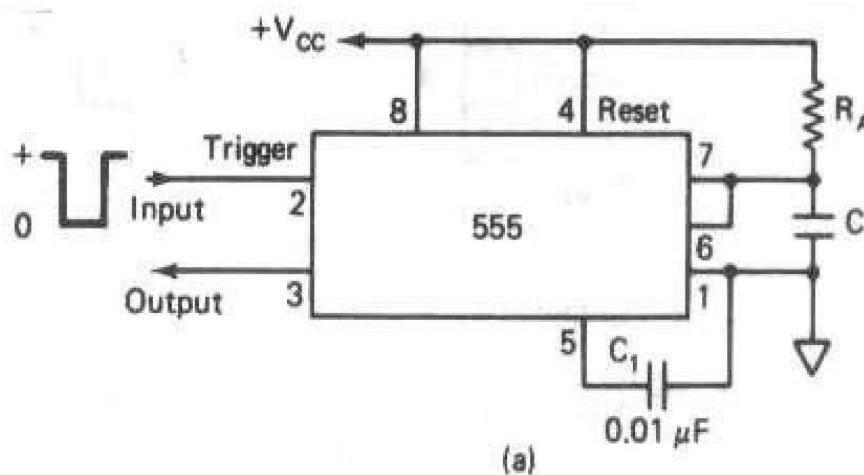

Figure 2.2(a) IC555 as monostable multivibrator
The monostable circuit has only one stable state (output low), hence the name mono- stable. Normally, the output of the mono- stable multivibrator is low. Fig 2.2
555 configured for monostable operation. To better explain the circuit's operation, the internal block diagram is included in Fig 2.2(b).
According to Fig 2.2(b), initially when the output is low, that is, the circuit is in a stable state, transistor Q is on and capacitor C is shorted out to ground. However, upon application of a negative trigger pulse to pin 2, transistor Q is turned off, which releases the short circuit across the external capacitor C and drives the output high. The capacitor C now starts charging up toward  $V_{cc}$  through  $R_A$ .
Fig.2.2 (b) 555 connected as a Monostable Multivibrator (c) input and output waveforms Where  $R_A$  is in ohms and  $C$  is in farads. Figure 2.2(c) shows a graph of the various
- (a) **Frequency divider:** The monostable multivibrator of Figure 2.2(a) can be used as a frequency divider by adjusting the length of the timing cycle  $t_p$ , with respect to the time period  $T$  of the trigger input signal applied to pin 2. To use monostable multivibrator as a divide-by-2 circuit, the timing interval  $t_p$  must be slightly larger than the time period  $T$  of the trigger input signal, as shown in Figure 2.4. By the same concept, to use the monostable multivibrator as a divide-by-3 circuit,  $t_p$  must be slightly larger than twice the period of the input trigger signal, and so on. The frequency-divider application is possible because the monostable multivibrator cannot be triggered during the timing cycle.